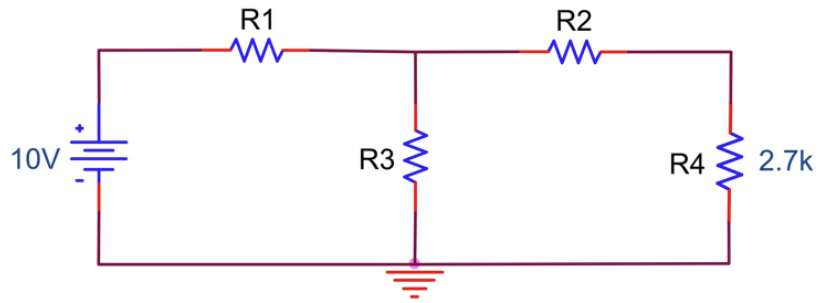

Figure 7.6
3. Construct Figure 7.6 with the values chosen in the preliminary calculations.